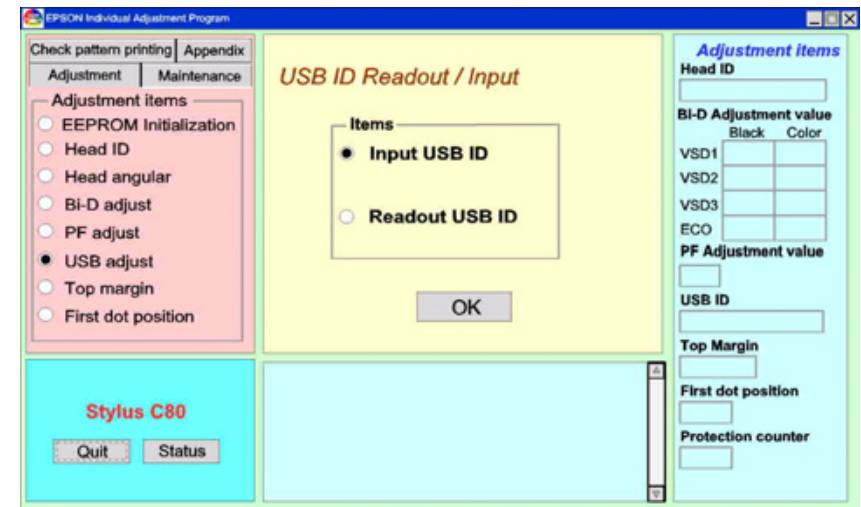

Figure 5-33. USB ID Readout/Input Initial Screen
2. Select "Adjustment" and then "USB ID". (Figure 5-33 screen appears.)